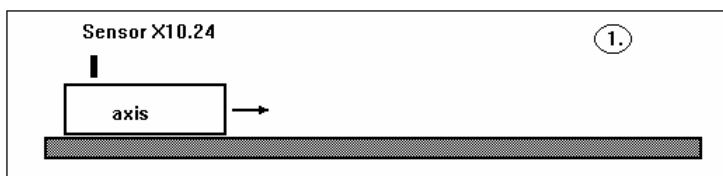
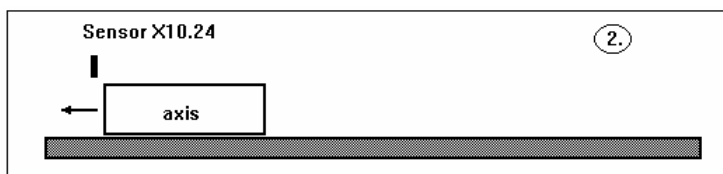

Fig. 3: Start of reference run with automatic selection of direction
Figure 4:
2. With reference modes with reference sensor, the reference run is started in the opposite direction if the reference sensor is already active at the start of the reference run (see figure 3). After the reference sensor becomes free (inactive) the axis is stopped (see figure 4). Subsequently the reference sensor is moved to in the specified reference direction and the reference run is ended according to the reference mode.